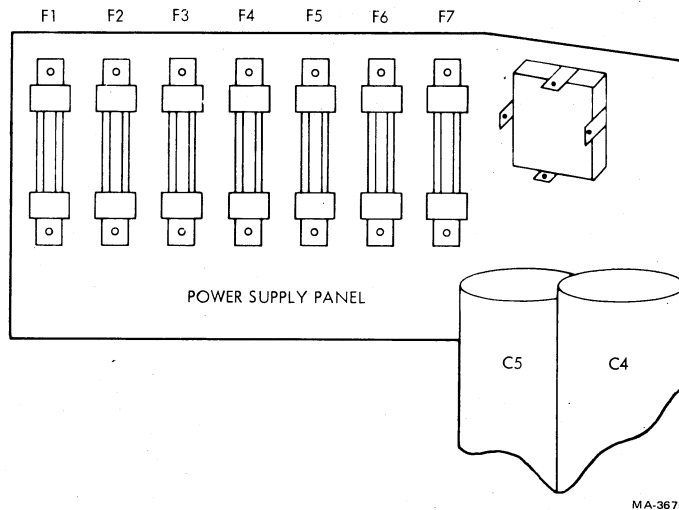

Figure 6-1 Power Supply Fuse Panel
5. With a digital voltmeter (DVM) check all the unregulated dc voltages at fuses F1 through F7 with respect to chassis ground. The fuses are located on the power supply fuse panel. Refer to Figure 6-1 for fuse locations and Table 6-5 for proper voltage readings. If the readings are incorrect go to Section 6.6 for troubleshooting information.